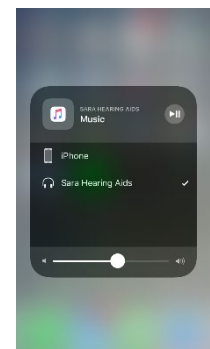

Figure 52.
2. Press the  icon in the upper right corner of the audio card (see orange box) to select the preferred audio source (Figure 52).